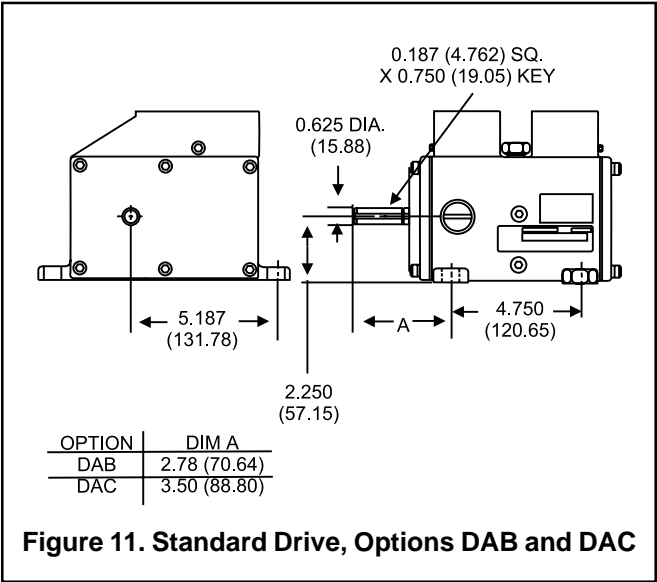

Figure 11. Standard Drive, Options DAB and DAC
**Standard Drives.** Two styles of standard drives are available. Both have a 0.825 inch (15.88 mm) diameter driveshaft for attachment to the appropriate driving source. One of the standard styles has a slightly longer driveshaft and is specifically designed for use in the package using the Lubriquip supplied motor and coupler. Figure 11 shows a typical standard drive.